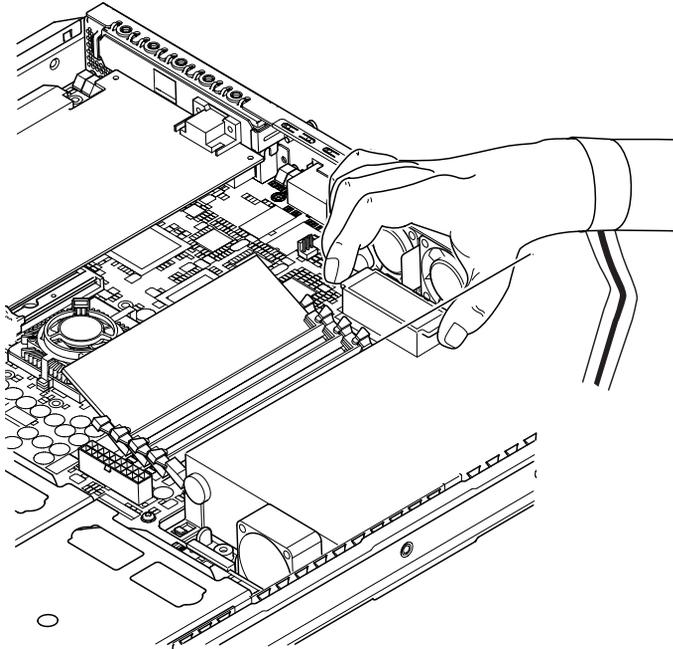

FIGURE 11-5 Replacing the NVRAM Chip
3. Carefully take the NVRAM chip carrier lengthwise between your thumb and forefinger and pull it out of its socket (see FIGURE 11-5).